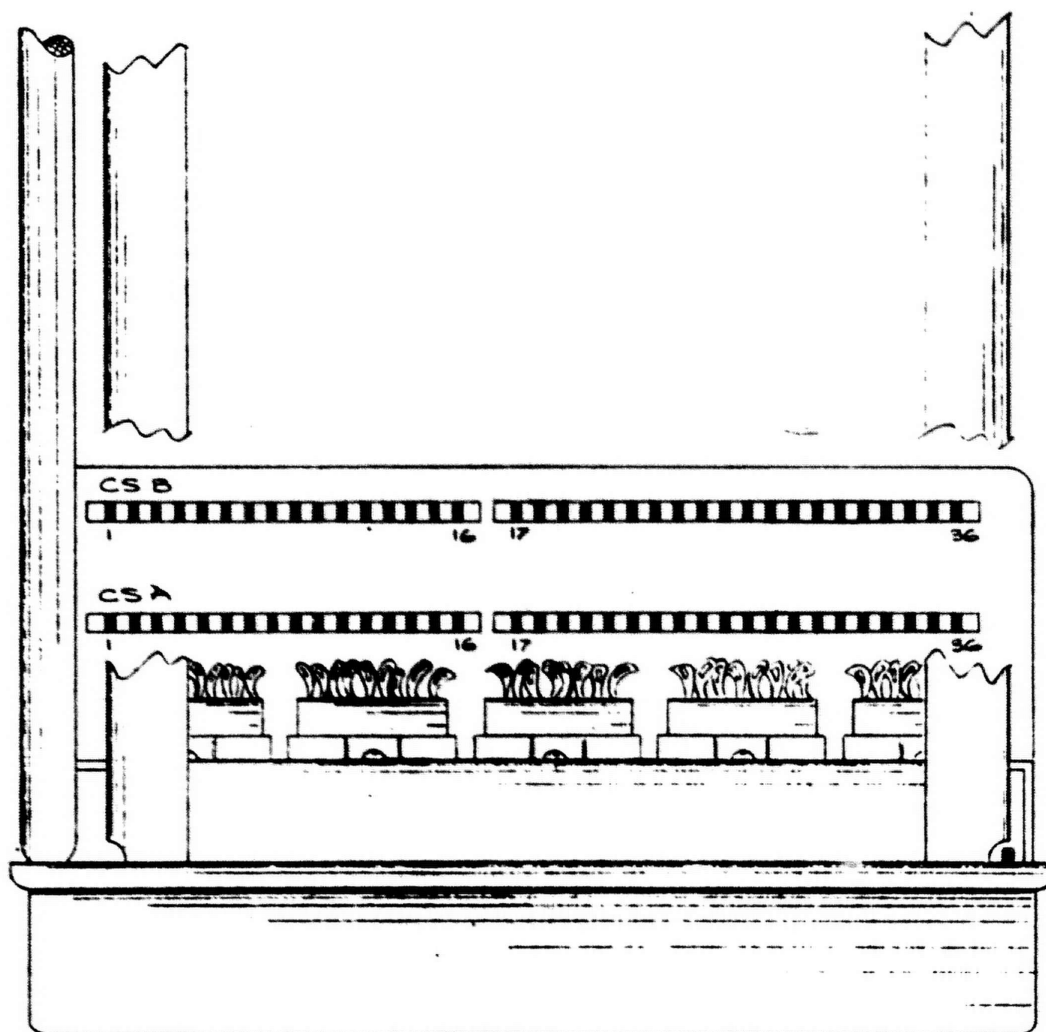

Fig. 4
- 3. Unsolder and remove the following components and wires (see Fig. 4 for ceramic strip locations):
NOTE: See Fig.4 for ceramic strip locations.